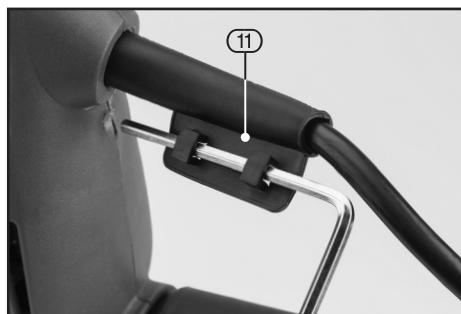

FIG.9
- Using the supplied hex. key (16), loosen the bevel cutting adjustment bolt (10) located on the underside of the base plate (7).
- Slide the base plate (7) backwards and adjust to the desired angle.
**Note:** If using the jigsaw in conjunction with the parallel guide (17), it must be removed to carry out the above step.
**Note:** Convenient hex. key storage (11) is incorporated into the base of the power supply cable (fig.9).